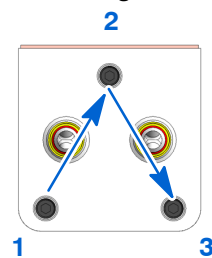

Figure 7 Assembling Manifolds
**NOTE:** Install the manifold with the the Nordson® logo in front as shown in Figure 7.
- Tighten screws (14) two turns at a time using an alternating pattern until pinch valve manifold (9) contacts the lower manifold body (11).
13. See Figure 7. Use retained M5 x 100 screws (20) with lock washers (15) and flat washers (16) to secure the top (6), upper Y (8), and pinch valve (9) manifolds together.
- Tighten screws (20) two turns at a time using an alternating pattern until pinch valve manifold (9) contacts upper Y manifold (8).